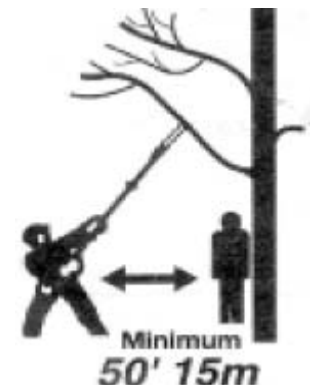

Figure 14
- Keep bystanders at least 50ft. away (**Figure 14**).